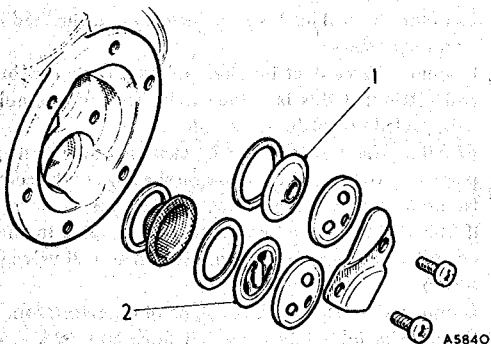

Fig. 9. The valve assembly, AUF 300 range pumps
13. In the AUF 300 range of pumps the valve assemblies are retained internally in the body by a clamp plate secured with self-tapping screws (see Fig. 9). The inlet valve recess in the body is deeper than the outlet recess to allow for the filter and extra washer. Another feature of these pumps is the incorporation of an air bottle on the inlet and a flow-smoothing device on the delivery side.